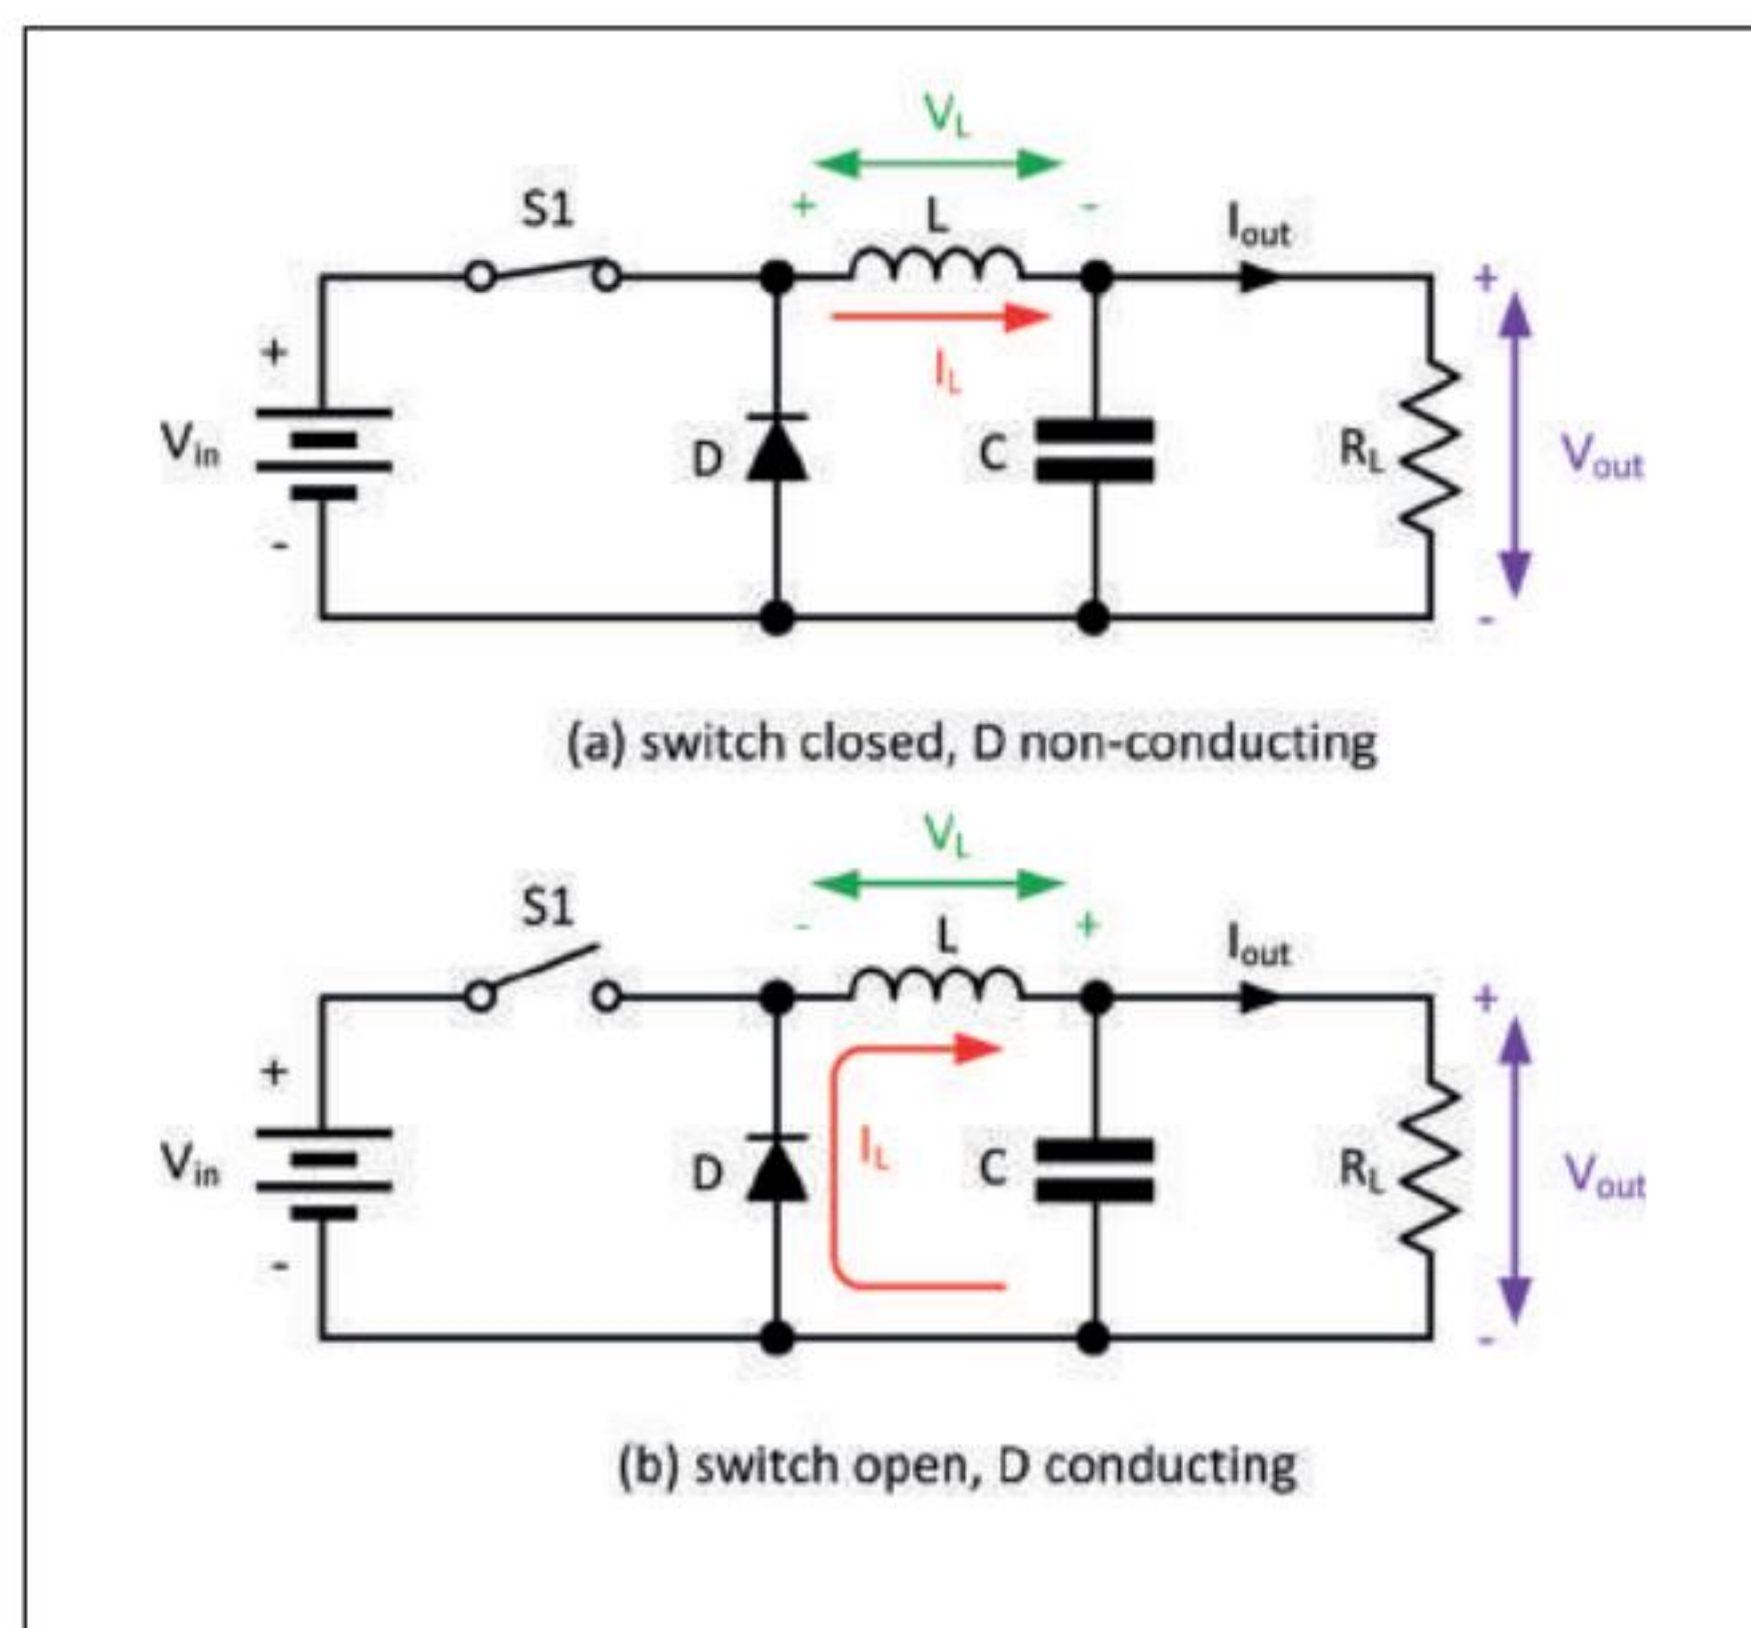
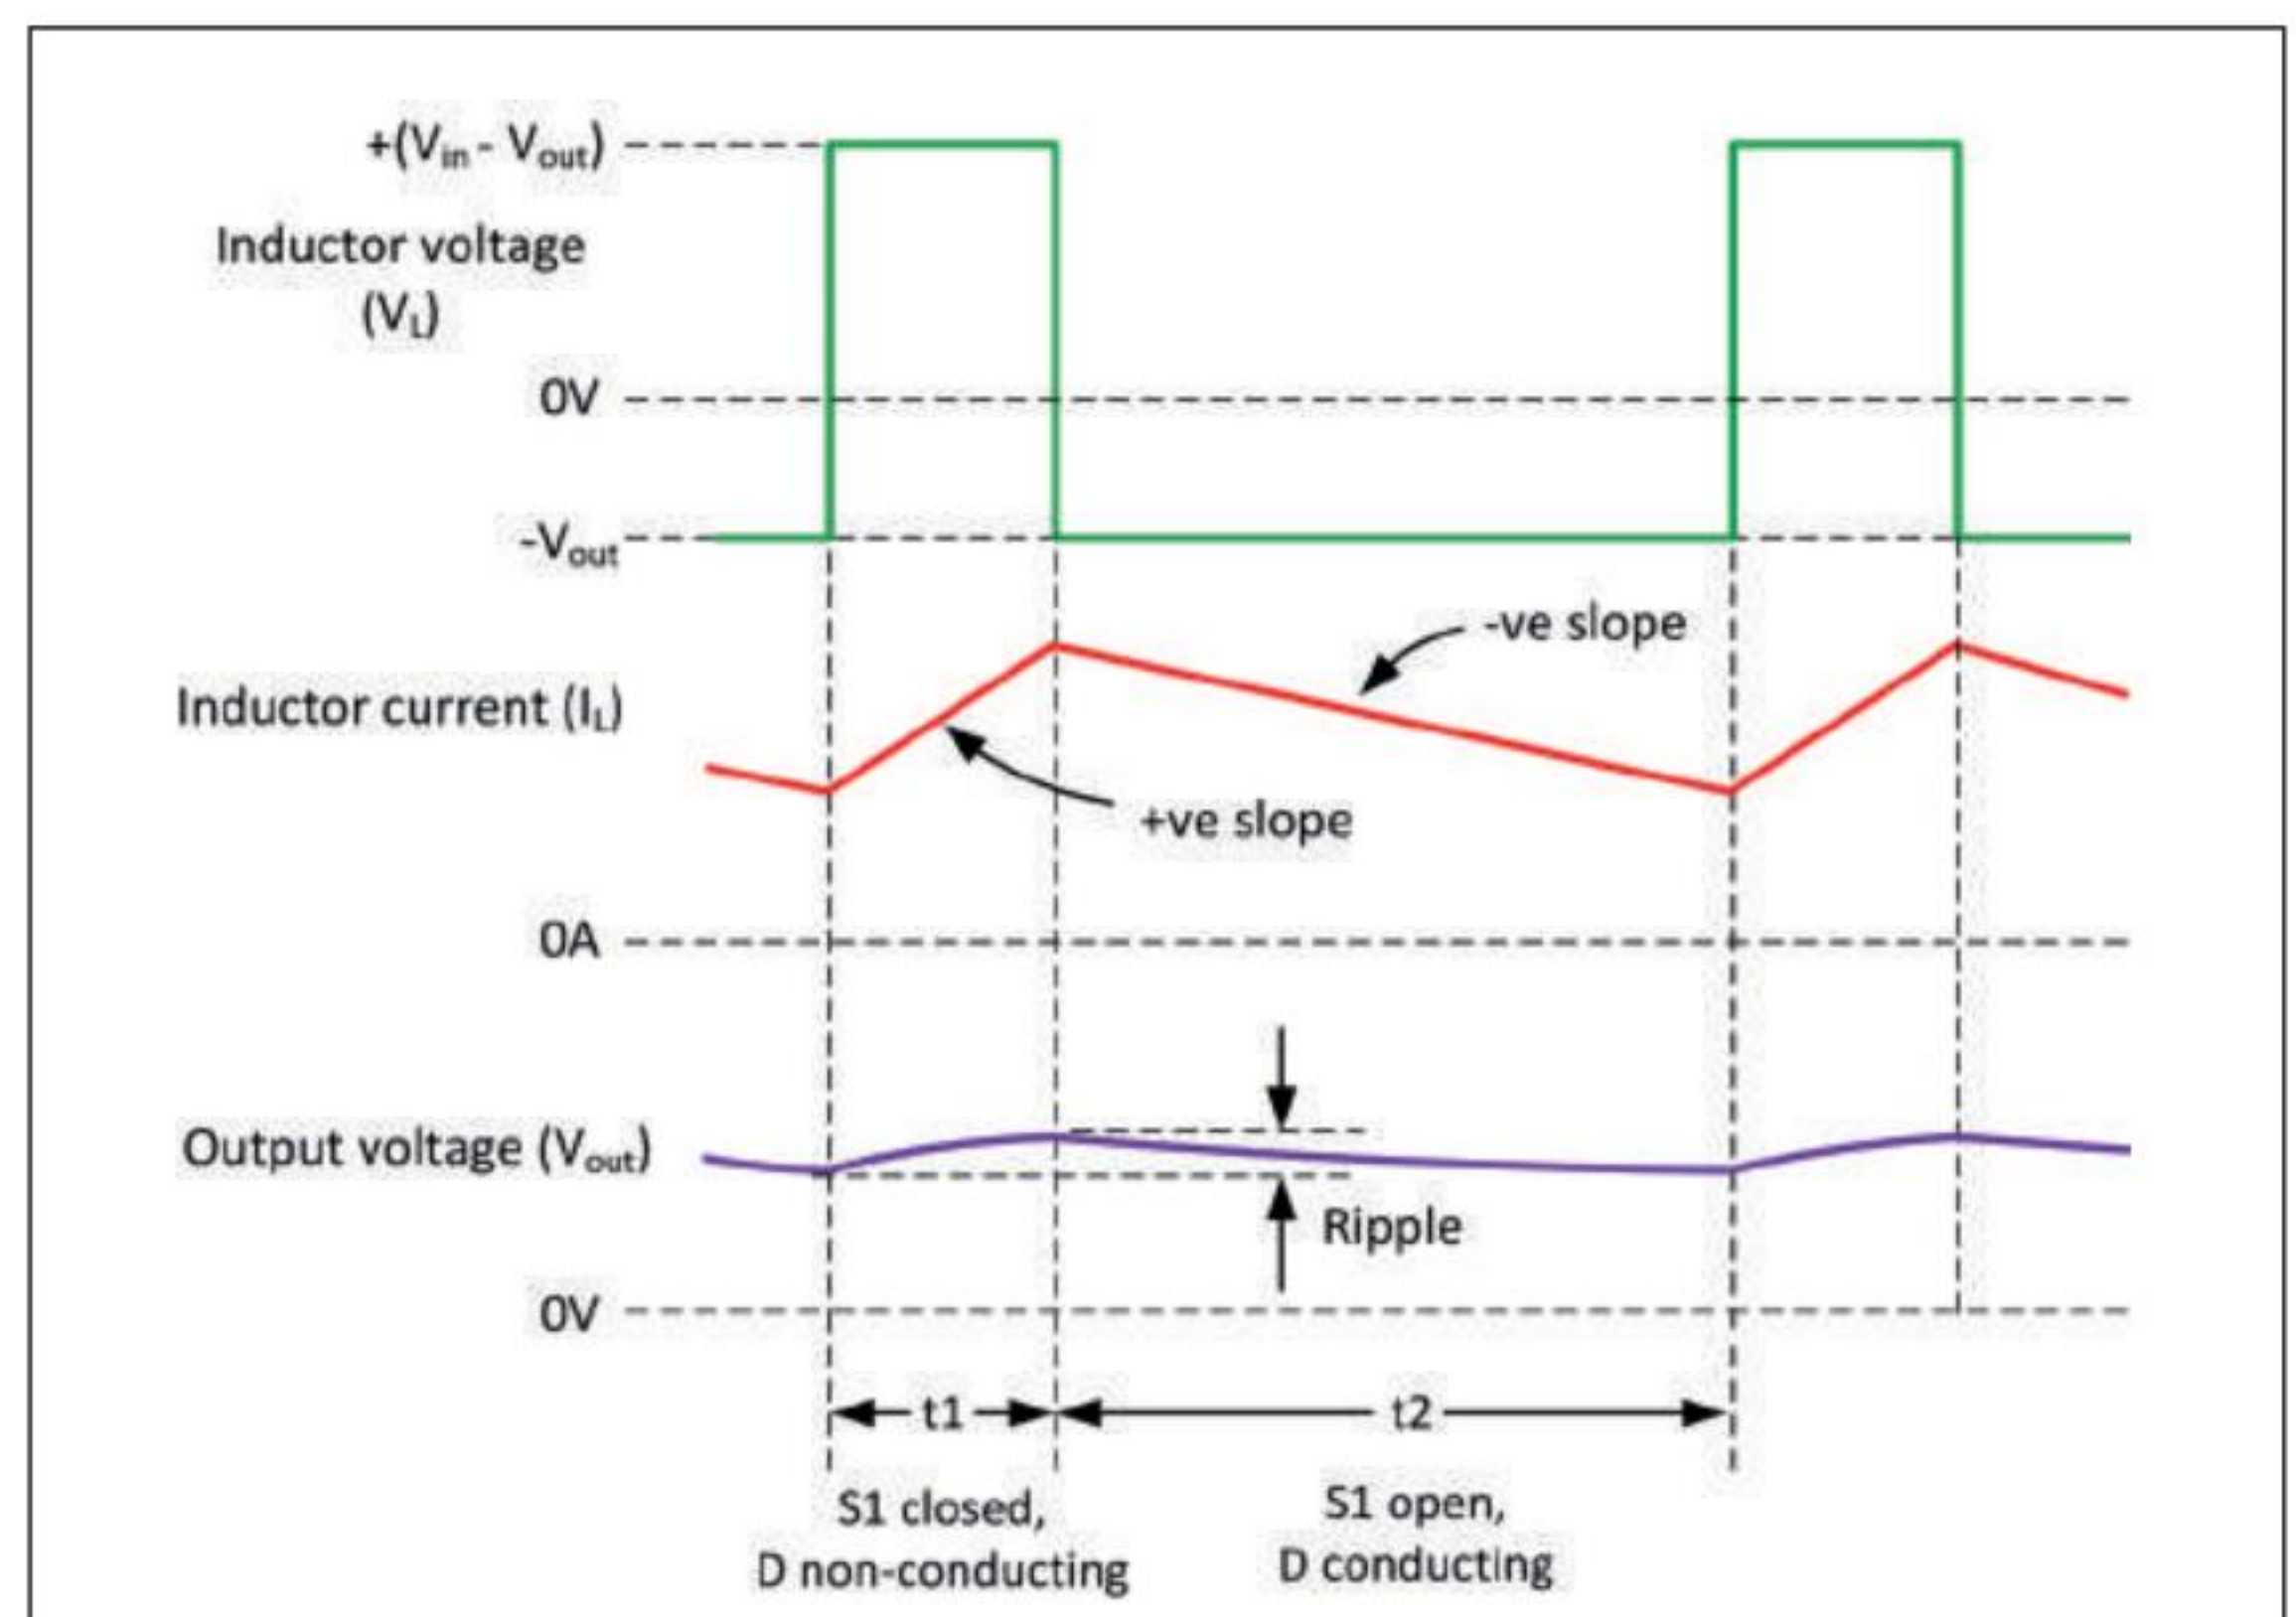

Fig.4.1. SMPS principle
Fig.4.2. Waveforms of the current and voltages in Fig.4.1
The principle of a buck (or step-down) switched-mode converter is shown in Fig.4.1. With S1 closed, the switching diode (D) will be reverse biased and will thus be in a non-conducting state. Current will flow through the inductor (L) charging the capacitor (C) as well as delivering current to the load (R_L).
Waveforms for the circuit of Fig.4.1 are shown in Fig.4.2. The inductor voltage (V_L) is alternately positive and negative. When S1 is closed, the voltage dropped across the inductor (from left to right in the diagram) will be equal to $+(V_{in} - V_{out})$